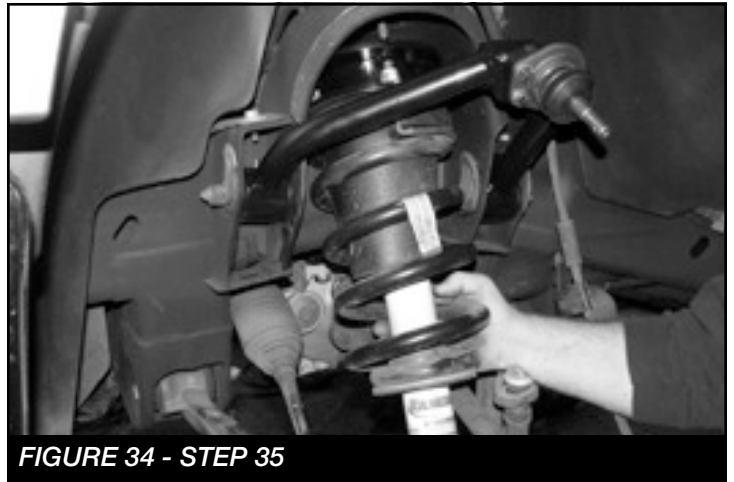

FIGURE 34 - STEP 35
35. Locate the three 7/16" nylock nuts and install the coil over into the upper shock mount. Leave loose at this time. **SEE FIGURE 34**